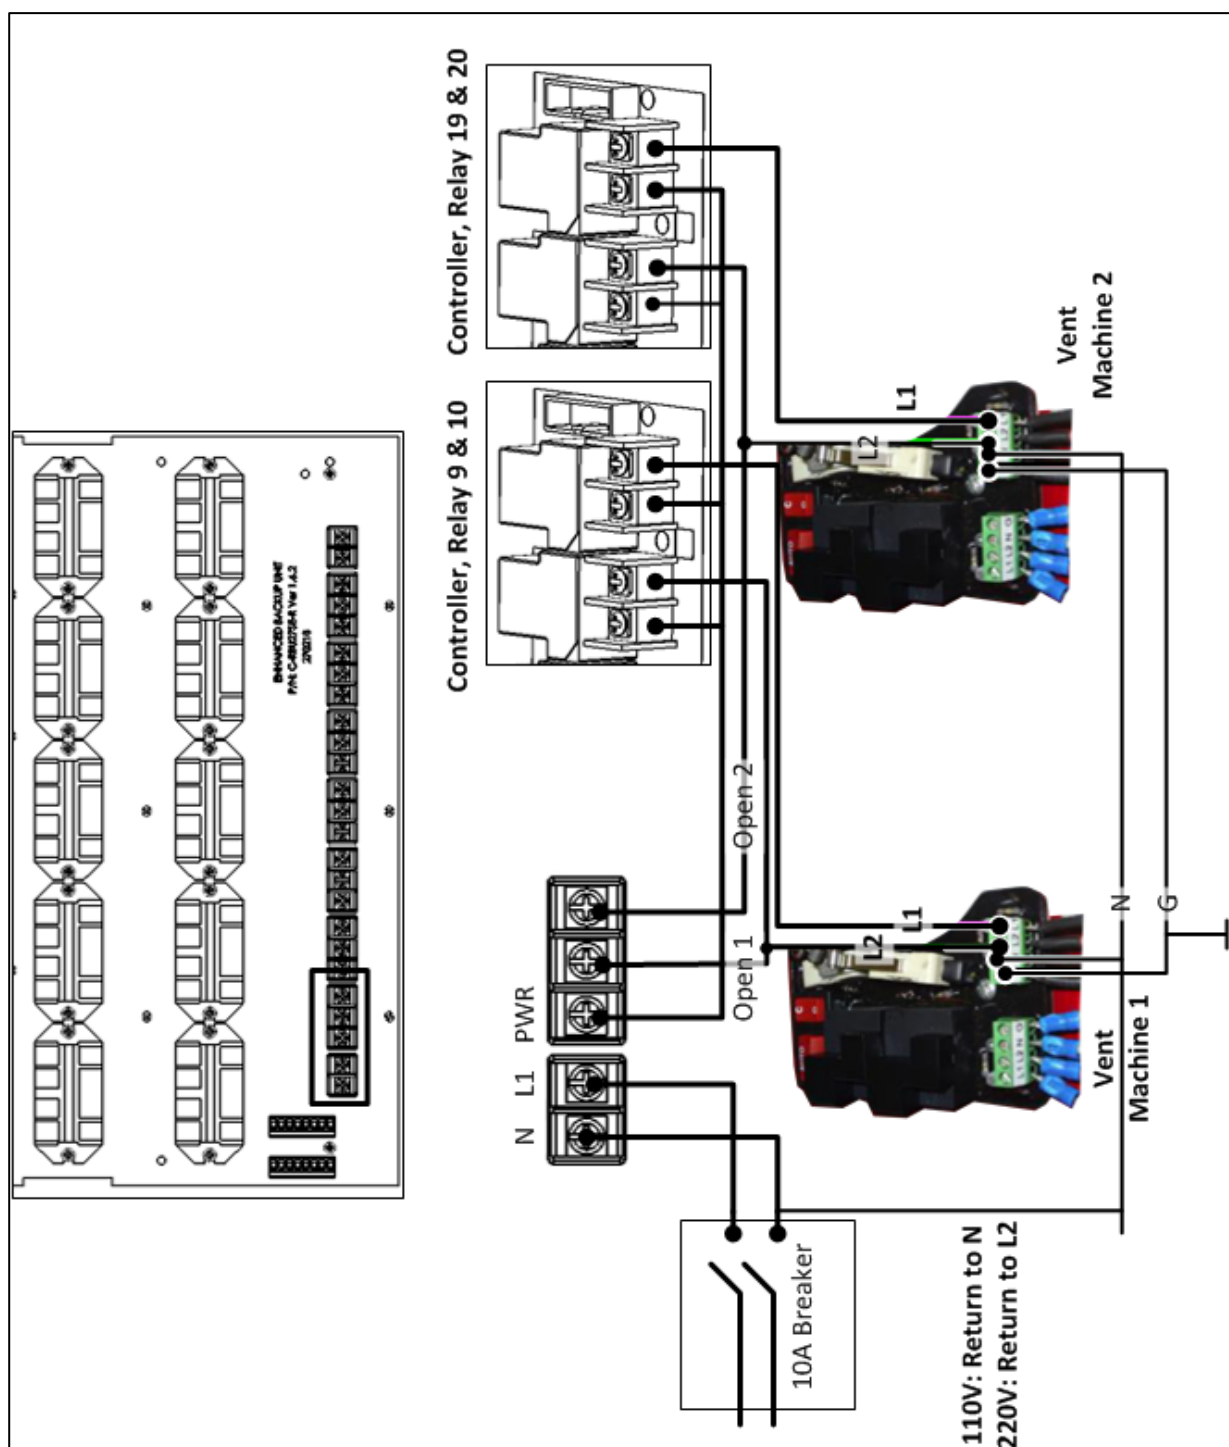
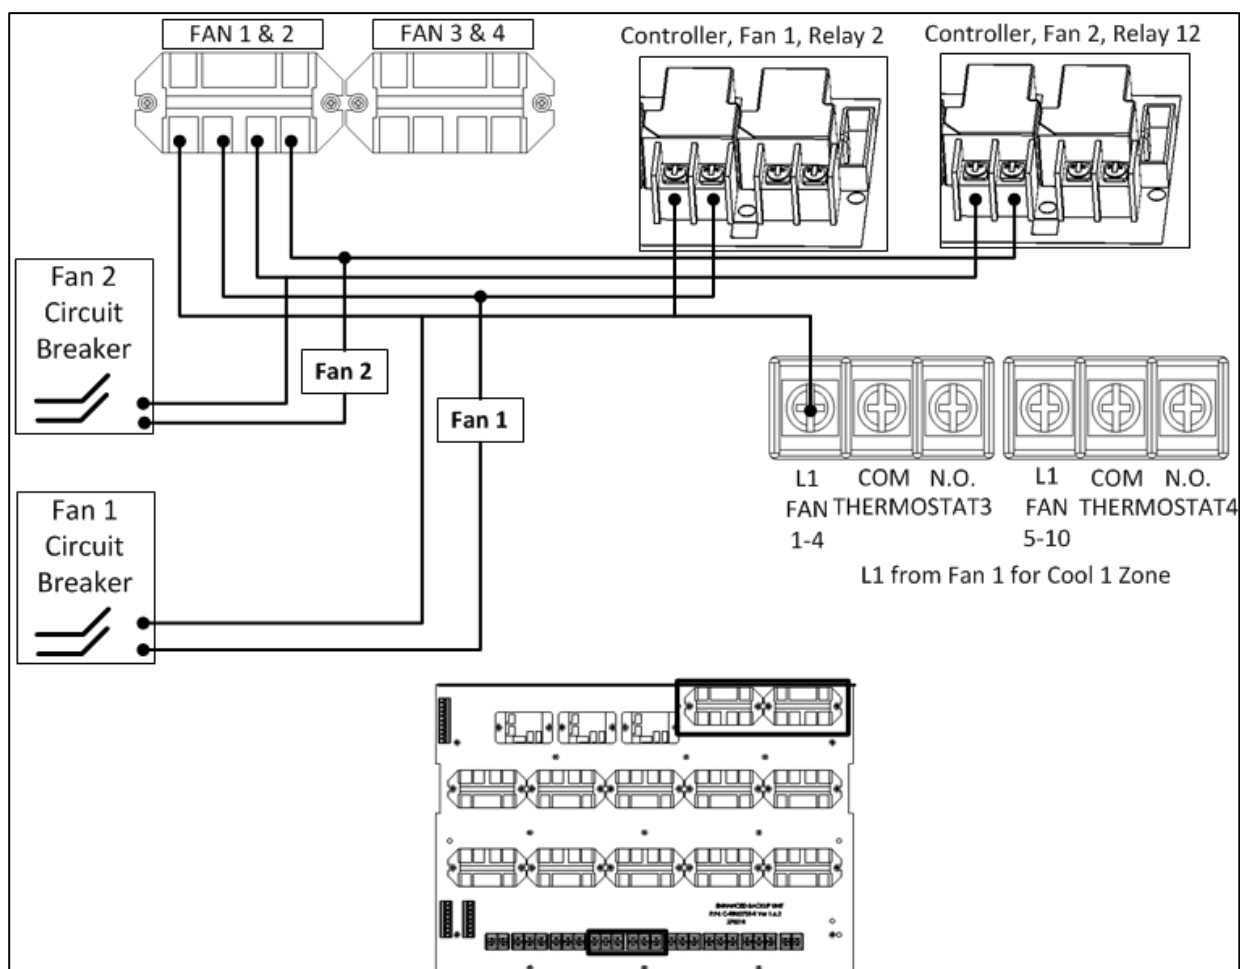
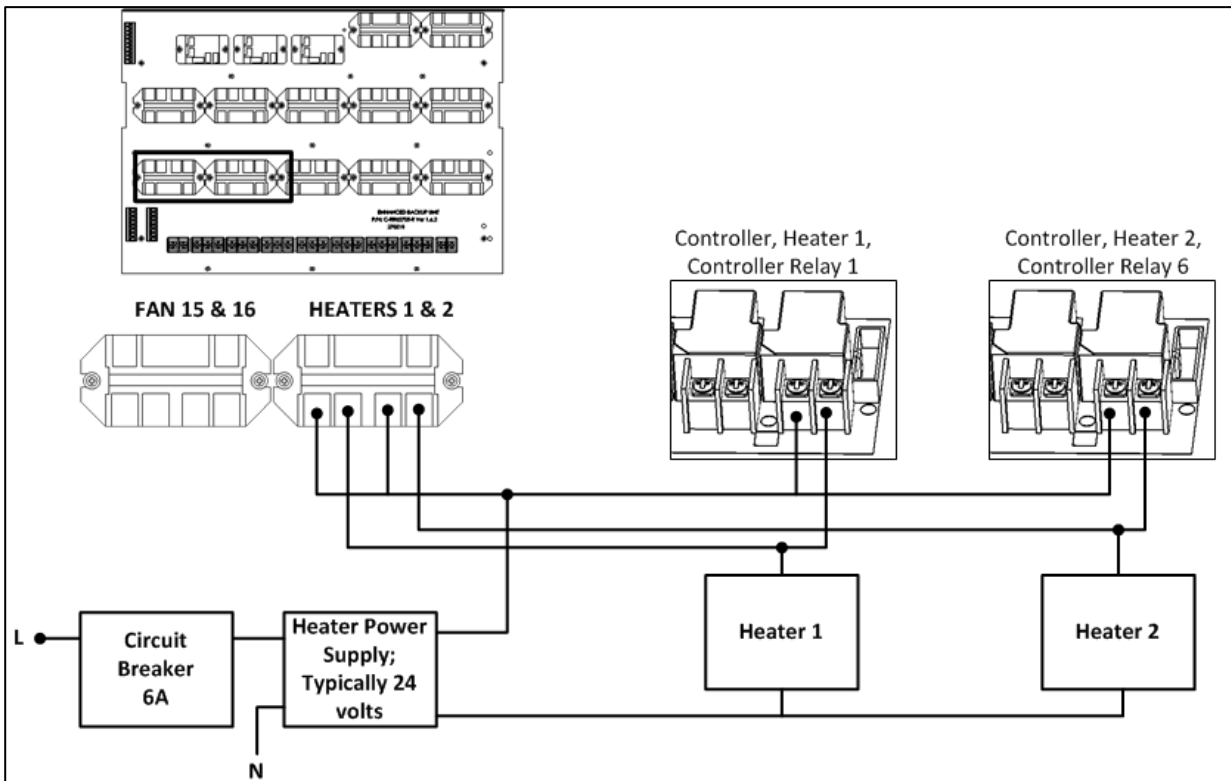

Figure 6: Vent Machine Wiring
Figure 7: Fan and Cooling Wiring
Figure 8: Heater Wiring
- Figure 6: Vent Machine Wiring
- Figure 7: Fan and Cooling Wiring
- Figure 8: Heater Wiring
- **Section 2 - Fans and heater contacts:** Designed to define the relays that active the cool pad, fans, and the heaters. Figure 6, Figure 7, and Figure 8 focus on defining the connections to the controller and other equipment.